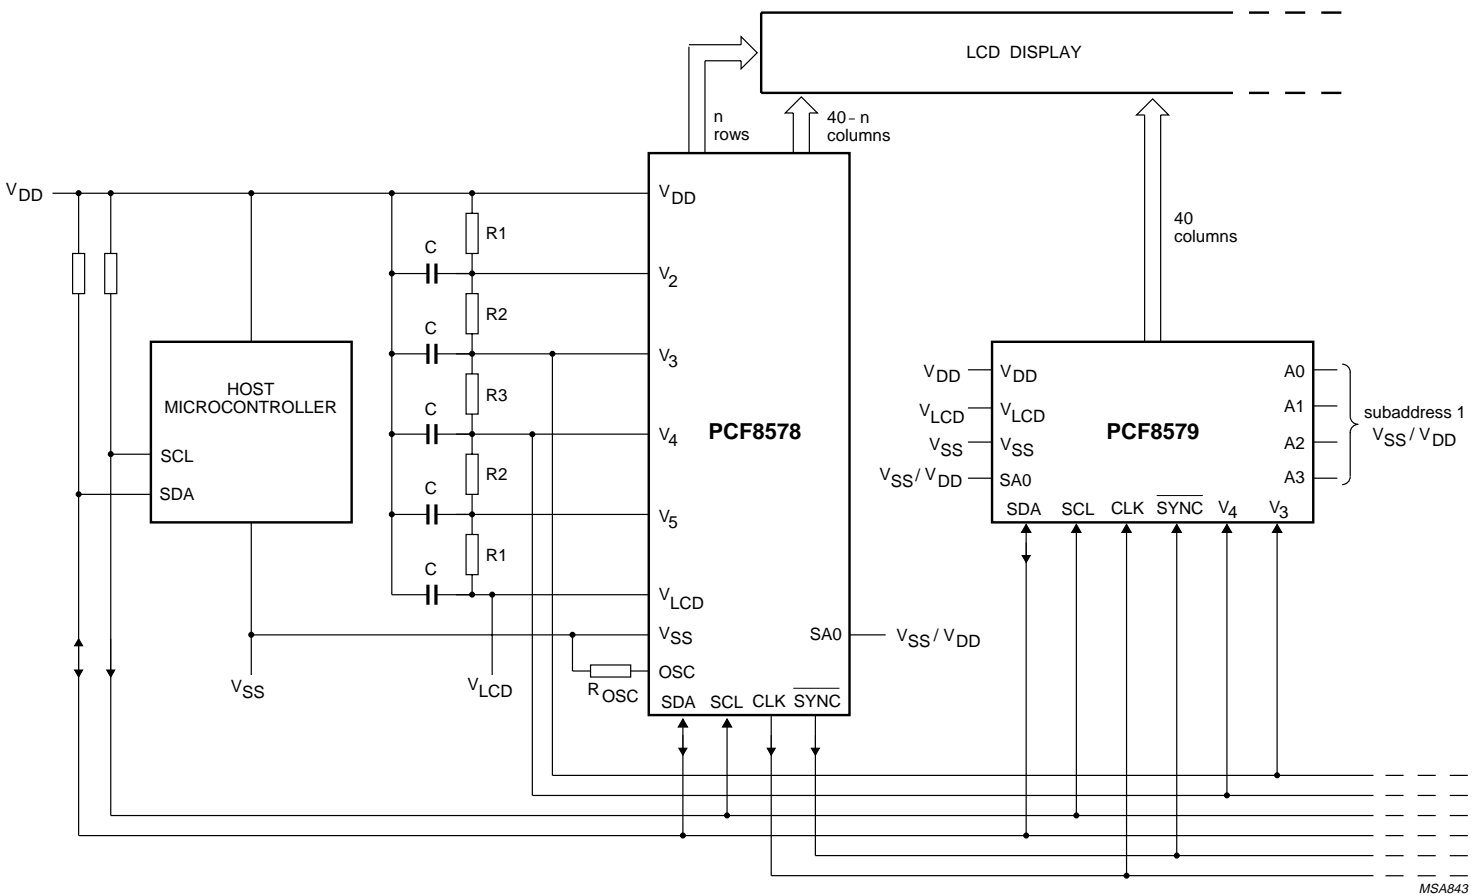

Fig.5 Typical mixed mode configuration.
Bias levels may be generated by an external potential divider with appropriate decoupling capacitors. For large displays, bias sources with high drive capability should be used. A typical mixed mode system operating with up to 15 PCF8579s is shown in Fig.5 (a stand-alone system would be identical but without the PCF8579s).
The bias levels required to produce maximum contrast depend on the multiplex rate and the LCD threshold voltage ( $V_{th}$ ).  $V_{th}$  is typically defined as the RMS voltage at which the LCD exhibits 10% contrast. Table 2 shows the optimum voltage bias levels for the PCF8578 as functions of  $V_{op}$  ( $V_{op} = V_{DD} - V_{LCD}$ ), together with the discrimination ratios (D) for the different multiplex rates. A practical value for  $V_{op}$  is obtained by equating  $V_{off(rms)}$  with  $V_{th}$ . Figure 4 shows the first 4 rows of Table 2 as graphs. Table 3 shows the relative values of the resistors required in the configuration of Fig.5 to produce the standard multiplex rates.
**Table 3** Multiplex rates and resistor values for Fig.5